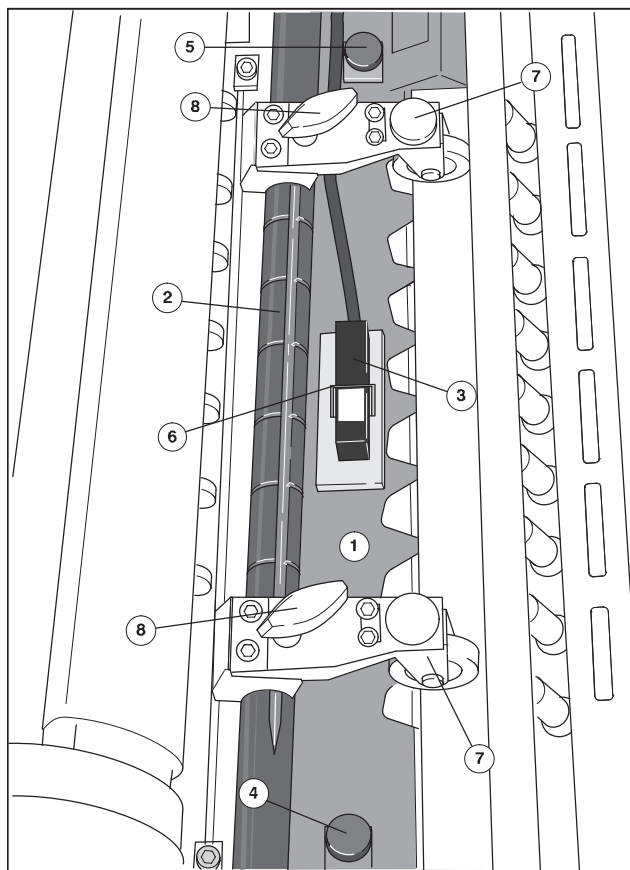

Fig. 35 Inserting the guide plate
2. Slide the guide plate with brush rollers (Fig. 35/1) through under the forwarding roller axle (Fig. 35/2).
3. Insert the two knurled screws (Fig. 35/4 and 35/5) in the bore holes of the guide plate and tighten slightly.
4. Mount the guide plate first with the knurled screw on O.S. (Fig. 35/4), then tighten the knurled screw on D.S. (Fig. 35/5).
5. Insert the sheet monitor (Fig. 35/3) and fasten with clamp (Fig. 35/6).
6. Align the forwarding rollers (Fig. 35/7) corresponding to the sheet size; when moving, make sure the **forwarding rollers correctly engage**.
7. Fix the forwarding rollers (Fig. 35/8) in place in the lock-in positions using the tommy bar screws.